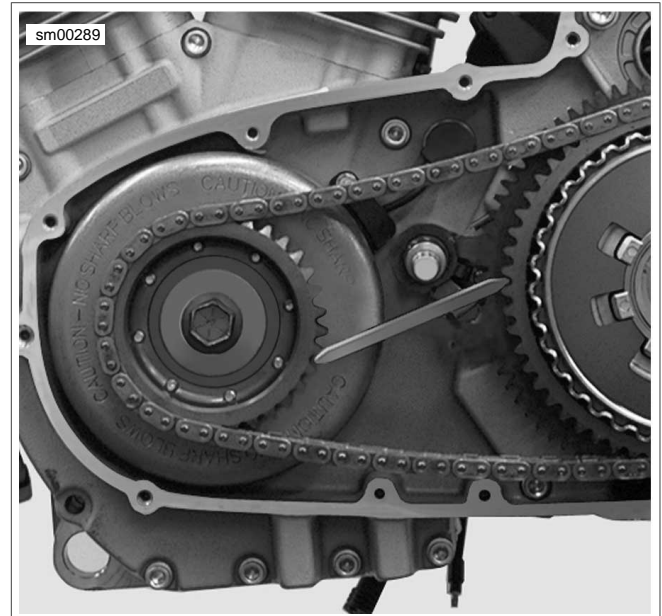

Figure 5-24. Sprocket Locking Link Tool (Specific tool for XB9 models, Specific tool for XB12 models)
- See Figure 5-24. Install SPROCKET LOCKING LINK (Part No. HD-38362 for XB9 models) or SPROCKET LOCKING LINK (Part No. HD-46283 for XB12 models).